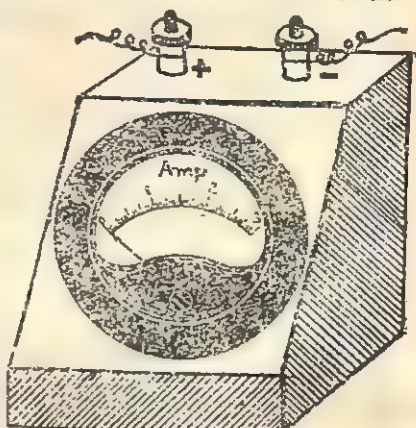

Fig. 12.6. Ammeter.
(4) **Ammeter.** This instrument is used to measure the magnitude of current in a circuit. It has a low resistance. It is always connected in series with the circuit in which the current is to be measured in such a way that the current enters at its positive terminal and comes out of the ammeter from its negative terminal Fig. 12.6 represents an ammeter which can measure currents upto 3 amperes.